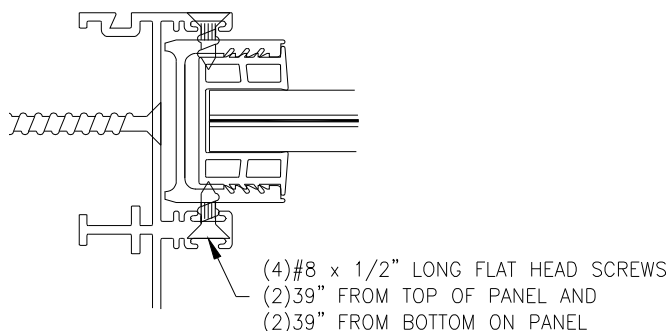

Figure 25:
- **“O” Panel** - Lift and move the panel into the fixed jamb as far as possible. Verify that the weather stripping in the frame head is located so that it contacts the width of the “O” panel. Add (4) #8 x 1/2” long flat head screws to all fixed panels (Figure 25). Screws shall be countersunk and located 39” from top and bottom.